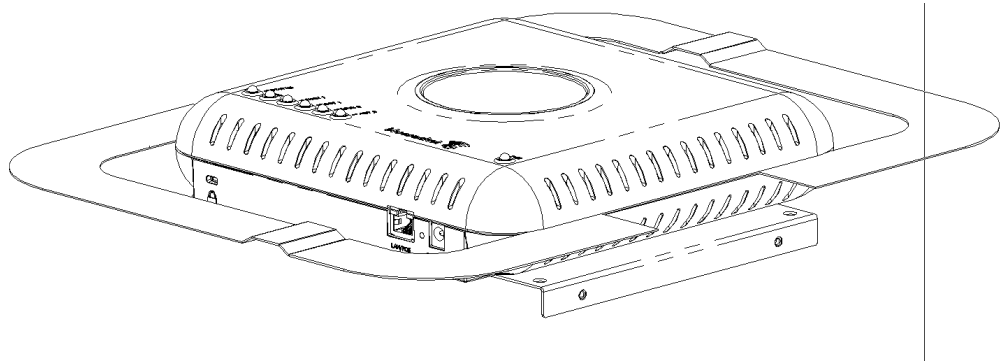

Figure 8: Trim Plate Installation
3. Slide the Trim Plates into the grooves of the BSAP-1700 unit as shown in Figure 8. Slide each half of the trim plate until the halves click into place.